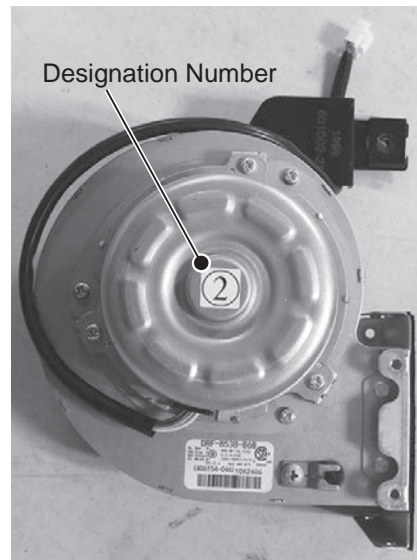

Figure 105 - Fan designation number
**IMPORTANT!** Note the fan designation number provided on the label located in the center of both the old and new fan assemblies. This information will be used later to properly configure the water heater. See Figure 105.
- 43** Press the "**SETTING**" button and adjust the value of **C04** using the "**UP**" and "**DOWN**" buttons to match the fan designation number on the new fan assembly recorded in **Step 24**. See Figure 105 as reference. The value will flash.